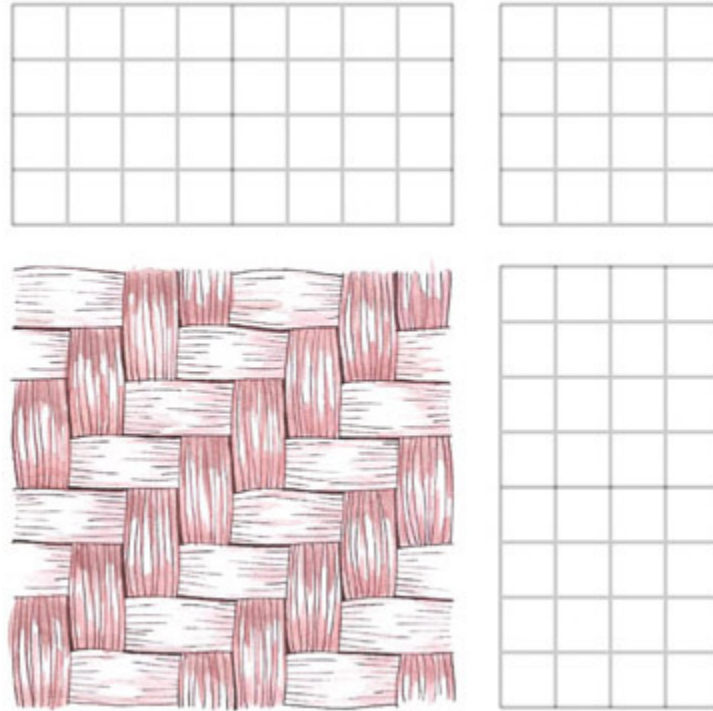

Figure 15 Method for analyzing a fabric
1. Let's transfer the design from your fabric to the usual weaving draft. To do this, read each warp, column by column, and note it as you go on your graph paper. Here, in Figure 15, is what we get.